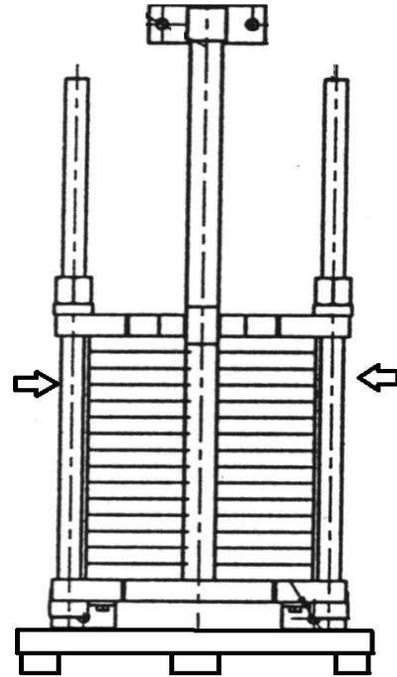

Fig. 14
- Place hoisting straps around one bolt on each side of the top of the unit. (Fig. 14)